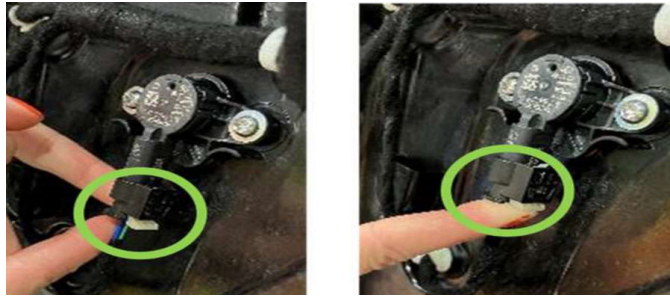

Fig. 35
39. Connect the wire harness to the crash sensor and lock the connector locking tab to ensure the harness connector is fully seated Fig. 35.